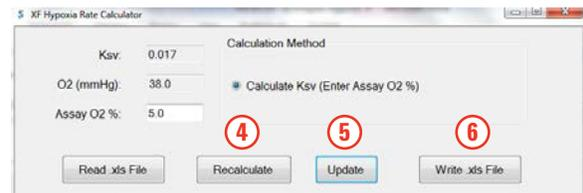

Figure 8. Recalculate, Update, and Write .xls File commands.
6. Click **Recalculate** (4, Figure 8).
7. Click **Update** (5, Figure 8).
8. Click **Write .xls File** (6, Figure 8).